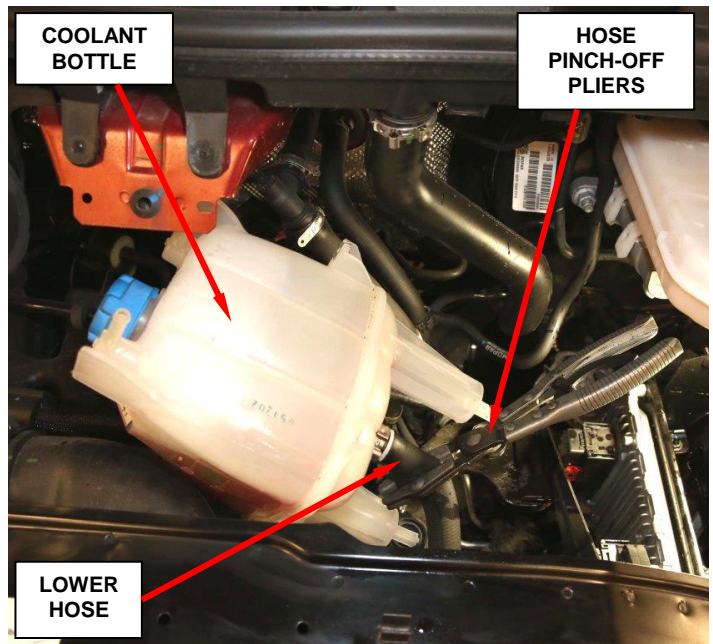

Figure 20 – Pinch-Off Lower Hose
6. Using hose pinch-off pliers, pinch off the lower coolant hose at the coolant bottle (Figure 20).